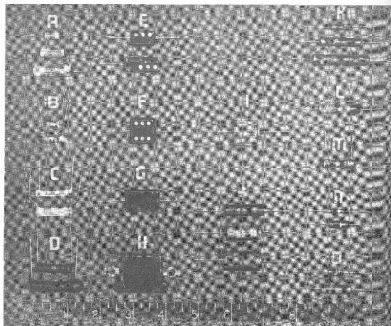

Fig. 63. Types of Capacitors and Resistors
shape or both. The relative appearance of the various capacitors and resistors used in these radio sets is shown in Fig. 63. The first column (A-D) shows ceramic capacitors. The second (E-H) shows mica capacitors and the third (I-J) shows oiled paper capacitors. In the fourth column (K-O) are various kinds of resistors. The general characteristics of such units are given in Table VII and discussed in more detail later. While Fig. 63 covers the range of types, it does not necessarily include all the variations produced by different manufacturers.
The three sizes shown under group A (Fig. 63) cover the range of physical sizes in which these insulated ceramic capacitors are manufactured. These units were supplied originally in small sizes to provide temperature compensation for the combination of coil and mica capacitor in a tuned circuit. More recently, they have been specified in larger sizes in some tuned circuits to eliminate the need for a mica capacitor and provide temperature compensation for the coil. Since ceramic units with equal capacitance may differ greatly in temperature coefficient, it is not safe to use a ceramic unit for a replacement (where stability is needed) unless the temperature coefficient is known to be correct for that use.
Five sizes of ceramic capacitors are shown in Fig. 63. The two smallest are those in B. The next two are those in C, and the largest is the lower unit in D. Except for insulation the largest unit in group A corresponds in characteristics to the small unit in group C.
All the mica capacitors shown in the second column of Fig. 63 are insulated by a molded bakelite jacket and can be allowed to rest against metal. In general, the foil-mica units have a brown jacket, and the silver-mica units have a red jacket. Capacitors with a straw-colored bakelite jacket, as used in this equipment, may be either foil-mica, silver-mica, or paper units.
The capacitors shown in the third column of Fig. 63 use oil-impregnated paper for insulation. For stability, they do not compare with silver-mica types but they can be used as replacements for foil-mica types for screen grid and filament positions of vacuum tubes where they do not need to pass much radio-frequency current. In general, they are good substitutes for mica units for most by-pass purposes. The voltage rating decreases as the capacitance increases as follows:
44. Color Codes on Components. The various types of capacitors and resistors used in Radio Sets SCR-608-A and SCR-628-A are illustrated in Fig. 63 and discussed in Paragraph 43e. Some capacitors and resistors have their values stamped on the unit, but in many cases colored dots and bands are used instead. The various color codes used for capacitors and resistors are shown in Figs. 64 to 68 inclusive, and are discussed in the following paragraphs.
a. Molded Mica Dielectric Capacitors. Capacitors of this type are illustrated in groups E, F, G, and H of Fig. 63. Three different color codes are used on these units: